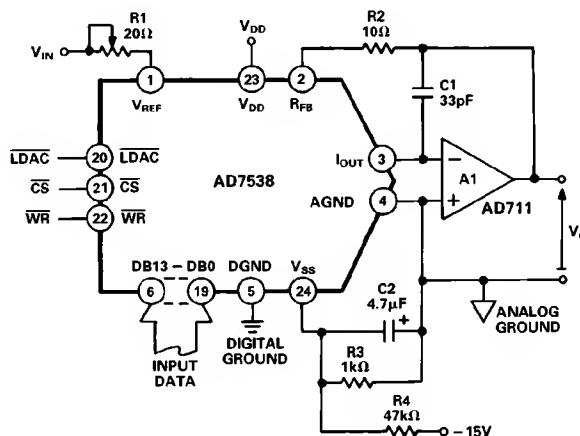
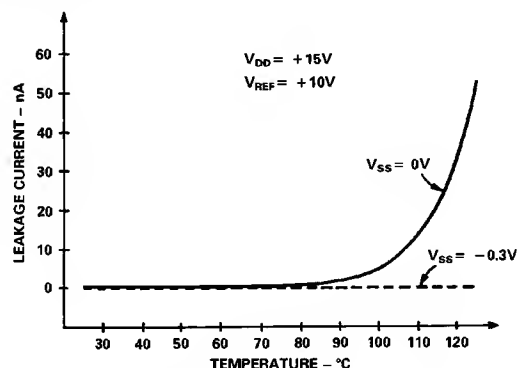

Figure 4. Unipolar Binary Operation
Figure 6. Graph of Typical Leakage Current vs. Temperature for AD7538
Figure 4 shows the circuit diagram for unipolar binary operation. With an ac input, the circuit performs 2 quadrant multiplication. The code table for Figure 4 is given in Table I.
$V_{SS}$  should be tied to a voltage of approximately -0.3 V as in Figures 4 and 5. A simple resistor divider (R3, R4) produces approximately -300 mV from -15 V. The capacitor C2 in parallel with R3 is an integral part of the low leakage configuration and must be 4.7  $\mu$ F or greater. Figure 6 is a plot of leakage current versus temperature for both conditions. It clearly shows the improvement gained by using the low leakage configuration.
**Output Offset:** CMOS D/A converters in circuits such as Figures 4 and 5 exhibit a code dependent output resistance which in turn can cause a code dependent error voltage at the output of the amplifier. The maximum amplitude of this error, which adds to the D/A converter nonlinearity, depends on  $V_{\text{OS}}$ , where  $V_{\text{OS}}$  is the amplifier input offset voltage. To maintain specified accuracy with  $V_{\text{REF}}$  at 10 V, it is recommended that  $V_{\text{OS}}$  be no greater than 0.25 mV, or  $(25 \times 10^{-6}) (V_{\text{REF}})$ , over the temperature range of operation. The AD 711 is a suitable op amp. The op amp has a wide bandwidth and high slew rate and is recommended for ac and other applications requiring fast settling.